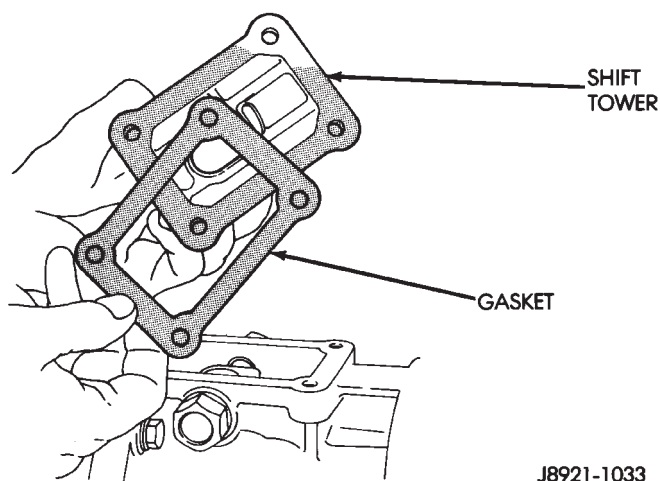

Fig. 17 Remove Shift Tower Gasket
- (7) Remove shift tower gasket from shift tower or transmission case (Fig. 17).